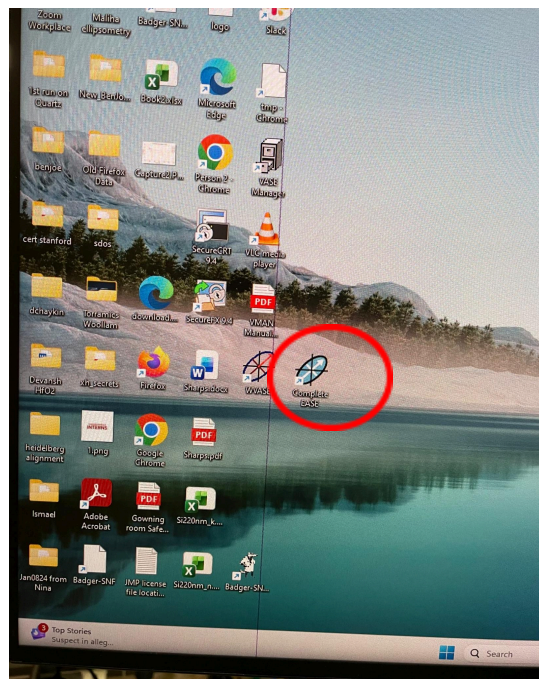

Figure 3: CompleteEase application on Desktop
- 8.1.6. Open the CompleteEASE software. **Figure 3.**